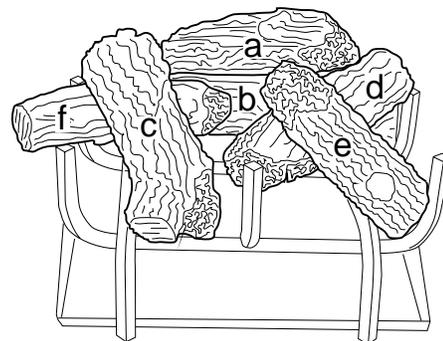

Figure 18 - Log Placement
2. Figure 18 shows the most practical placement of logs. Refer to the *Illustrated Parts Breakdown* on page 14 to distinguish each log. Logs may be arranged differently, but must be supported on the grate and not resting in the burner pan.